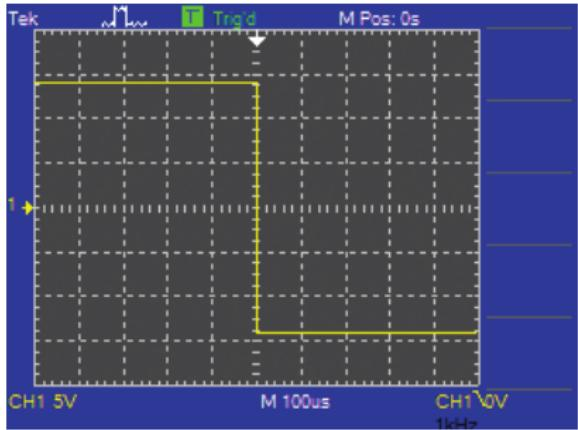

Figure 5: Input/output response
- ▶ In this case, a slightly positive input voltage produces a maximum negative output, as shown in Fig. 5.